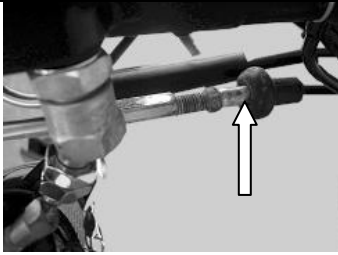

Figure 1; loosen jam nut and back off adjusting nut.
1. Loosen throttle return cable adjusting jam nut and back off cable adjusting nut (fig 1).